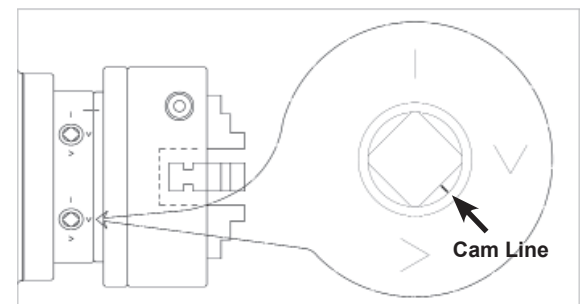

Fig. 29 Cam and lines
7. Turn a camlock with the chuck key until the cam line falls between the "V" marks shown in figure 29.